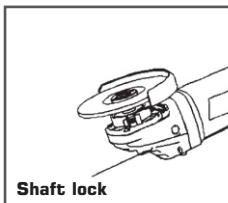

Fig4
2. To tighten the outer flange, press the shaft lock firmly so that the spindle cannot revolve, then use the lock nut wrench and securely tighten clockwise. (Fig 4)